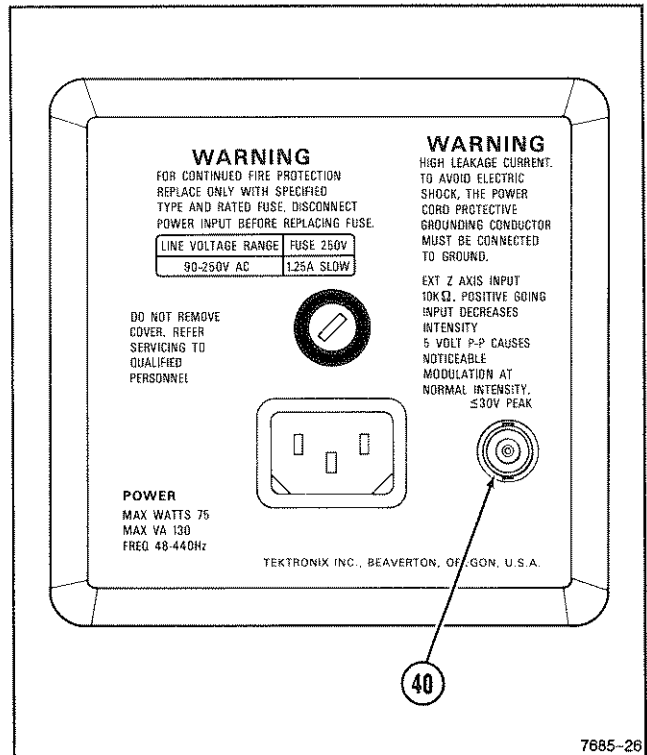

Figure 2-9. Rear-panel connector.
Refer to Figure 2-9 for location of item 40.